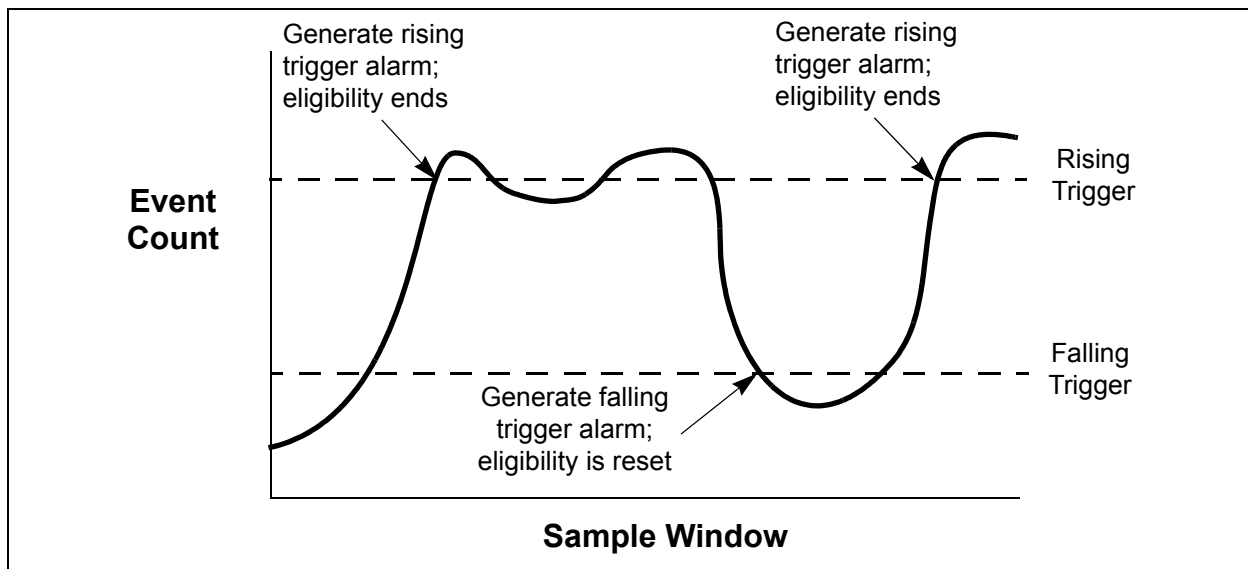

Figure 4-8. Port Threshold Alarm Example
5. Enter a value for the rising trigger. A rising trigger alarm is generated when the event count per interval exceeds the rising trigger. The switch will not generate another rising trigger alarm for that event until the count descends below the falling trigger and rises again above the rising trigger. Consider the example in Figure 4-8.